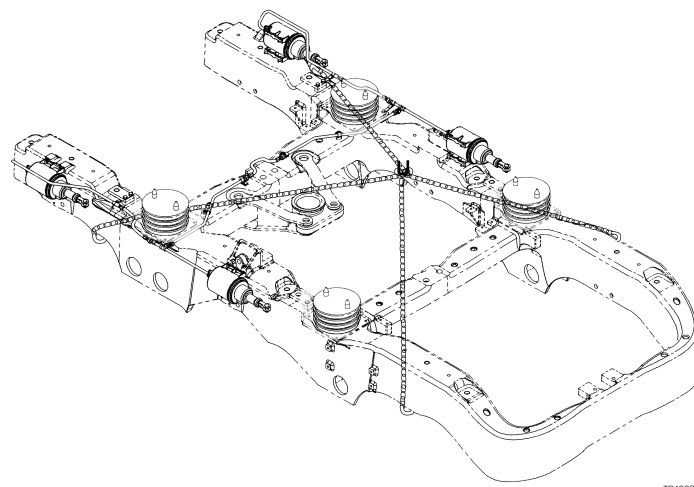

Figure 36 – Lifting of Bogie
7. Hold the nose link assembly away from the motor. Lift the bogie frame (Figure 36), rolling the traction motor in a manner that will disengage the motor from the bogie frame supplemental interlock (limit stops).